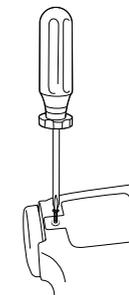

Fig. 11
- 3 Unscrew tab and lift off the battery compartment cover. **(Fig. 11)**